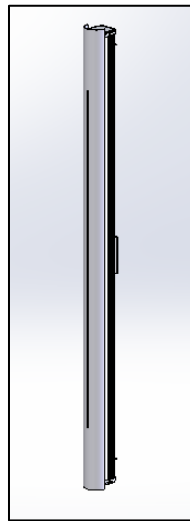

FIG.2 – ARMET LUMINAIRE (AS SHOWN)
1. ARMET OUTDOOR SCONCE LUMINAIRE. (as shown in FIG. 2)